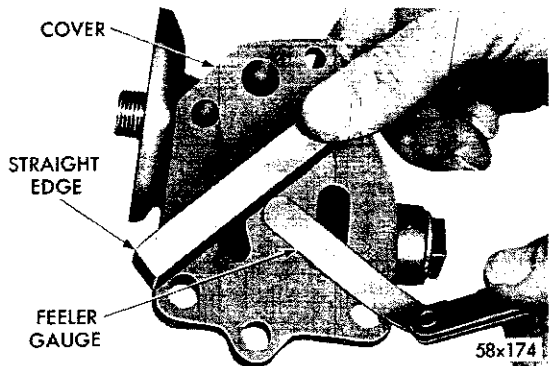

Fig. 3—Measuring the Oil Pump Cover with a Straightedge
(2) Lay a straightedge across the oil pump filter base surface (Fig. 3). If a .0015 inch feeler gauge can be inserted between the base and the straightedge, the filter base should be replaced.